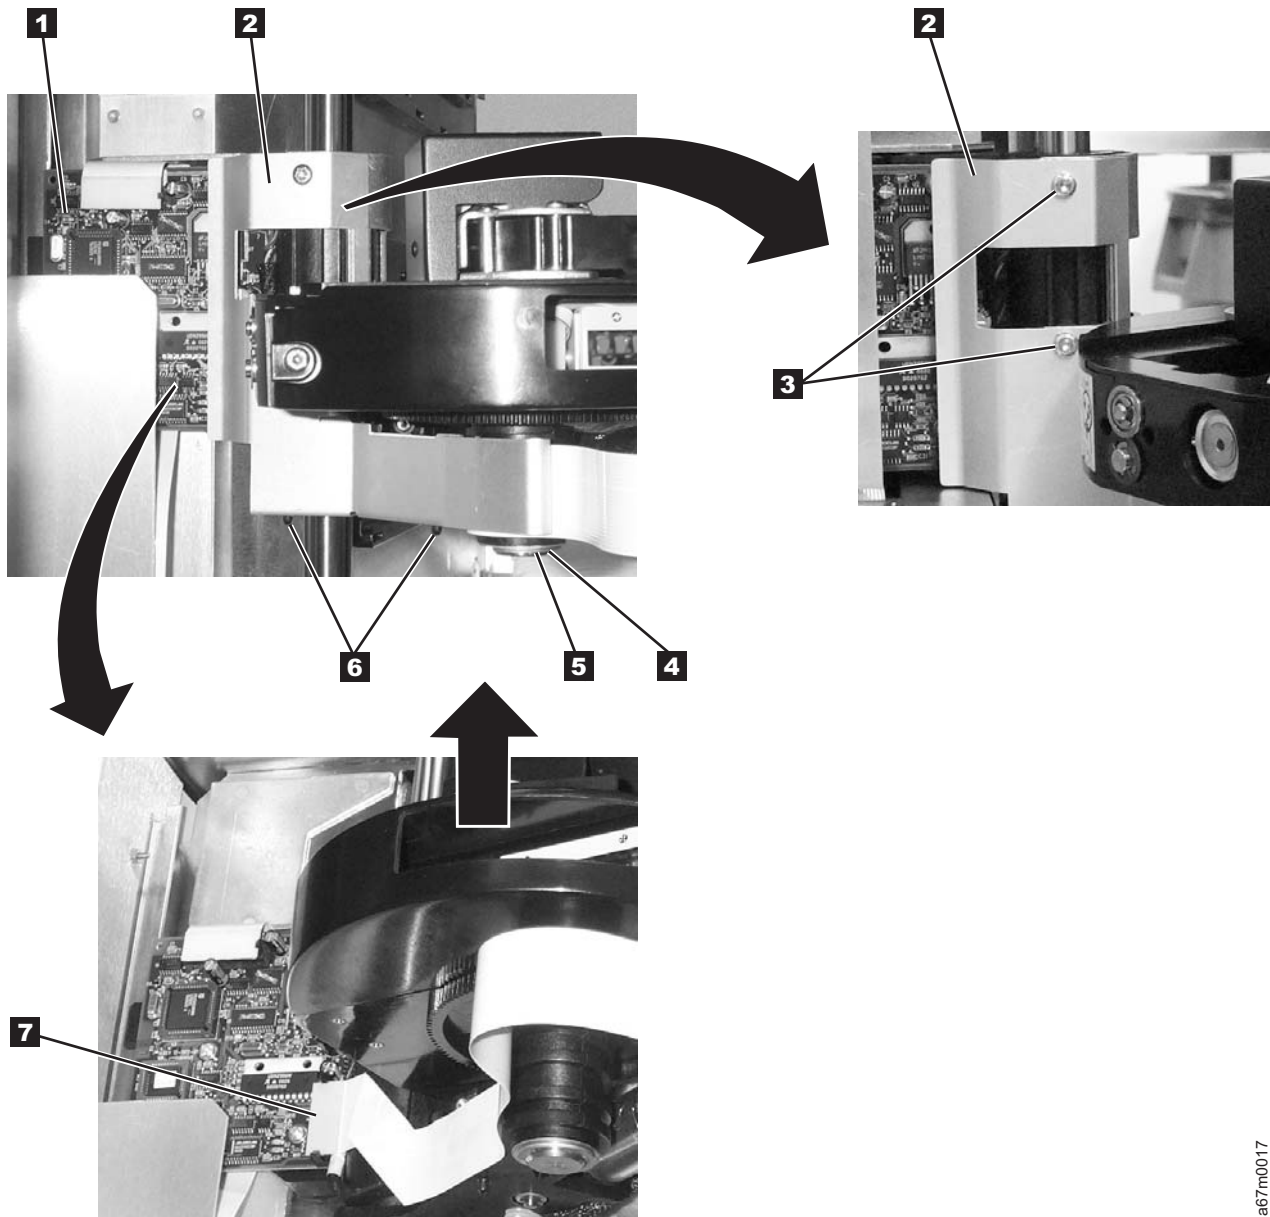

Figure 8-6. Picker Assembly Removal and Replacement
See Figure 8-6 on page 8-9 for locations of the components in the following procedure:
5. See Figure 8-6 on page 8-9 for step 5 through step 9. Lift the Picker Assembly and position it in the middle of the Y-shaft for easy access to its components.
Note: See Figure 8-6 on page 8-9. Before attaching the flex cable cover with the Torx screws, raise the picker assembly and position the cover so that the two pins on the base casting are centered in the holes **6**. Now tighten the Torx screws. Be sure to install the ground strap, and note that the eyelets of the ground strap are of different sizes.